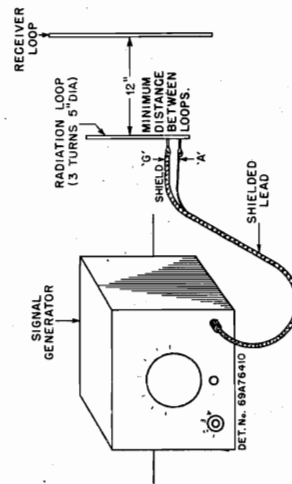

FIGURE 1. METHOD OF RADIATING SIGNAL INTO RECEIVER
*Connect output of signal generator to a 5" diameter 3 turn loop. See Fig. 1. With volume control on full, bring loop close enough to receiver loop until an output of 50 milliwatts is obtained (.38V on output meter). The distance between loops should never be less than 12". Vary distance between generator and receiver loops or adjust generator output to maintain .38V output during alignment.